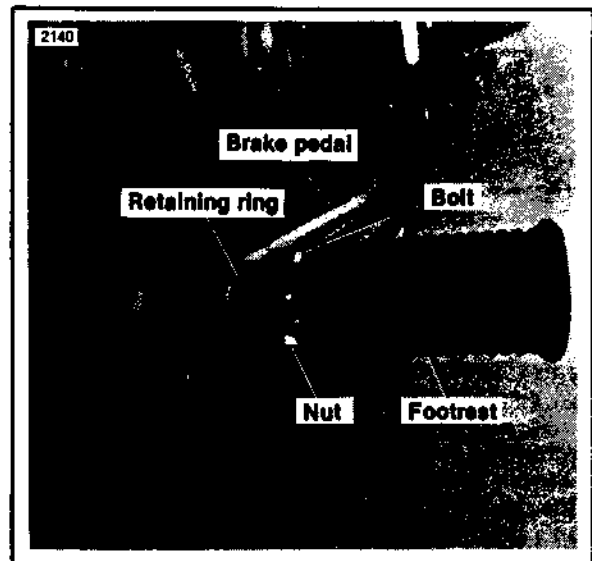

Figure 2. Rear Brake Control — XL Models
1. See Figure 2. Remove the bolt, nut and footrest. Remove the retaining ring from the pivot shaft.
4. Assemble the boot (4), spring (6) and cupped washer (5) onto the new plunger. Install the brake pedal assembly onto the motorcycle and position the plunger into the master cylinder so that it registers in the piston. Install the master cylinder mounting hardware. Tighten bolts to 155-190 in-lbs torque. Make sure drain hole in boot is positioned towards the bottom.
5. See Figure 2. Install the retaining ring, footrest, bolt and nut.